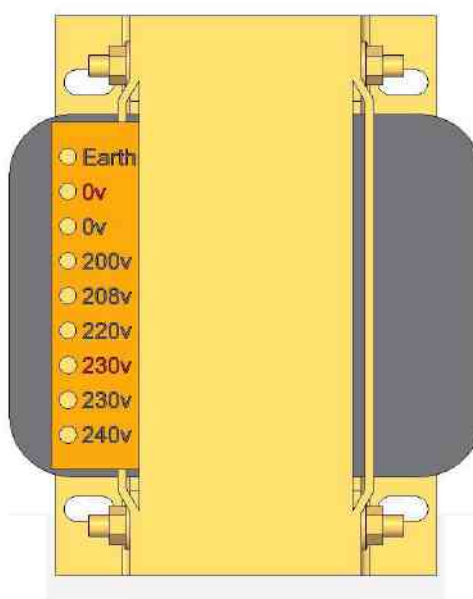

Figure 4 – Transformer showing different electrical supply connections
- With reference to Figure 4, change the position of wire 30 (W30) and wire 31 (W31) so that they are in the correct position for your electrical supply. Ensure the connections are fully tightened. **Do not move the wires attached to the red 0 V and 230 V connectors, as these provide power to the secondary stepper motor transformer and are not part of the procedure.**